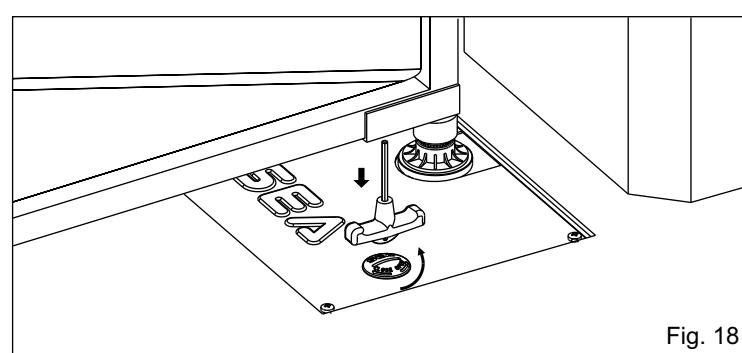

Fig. 18
- Use the supplied key top surface to open the release cap which protects the extention previously installed (Fig. 18)